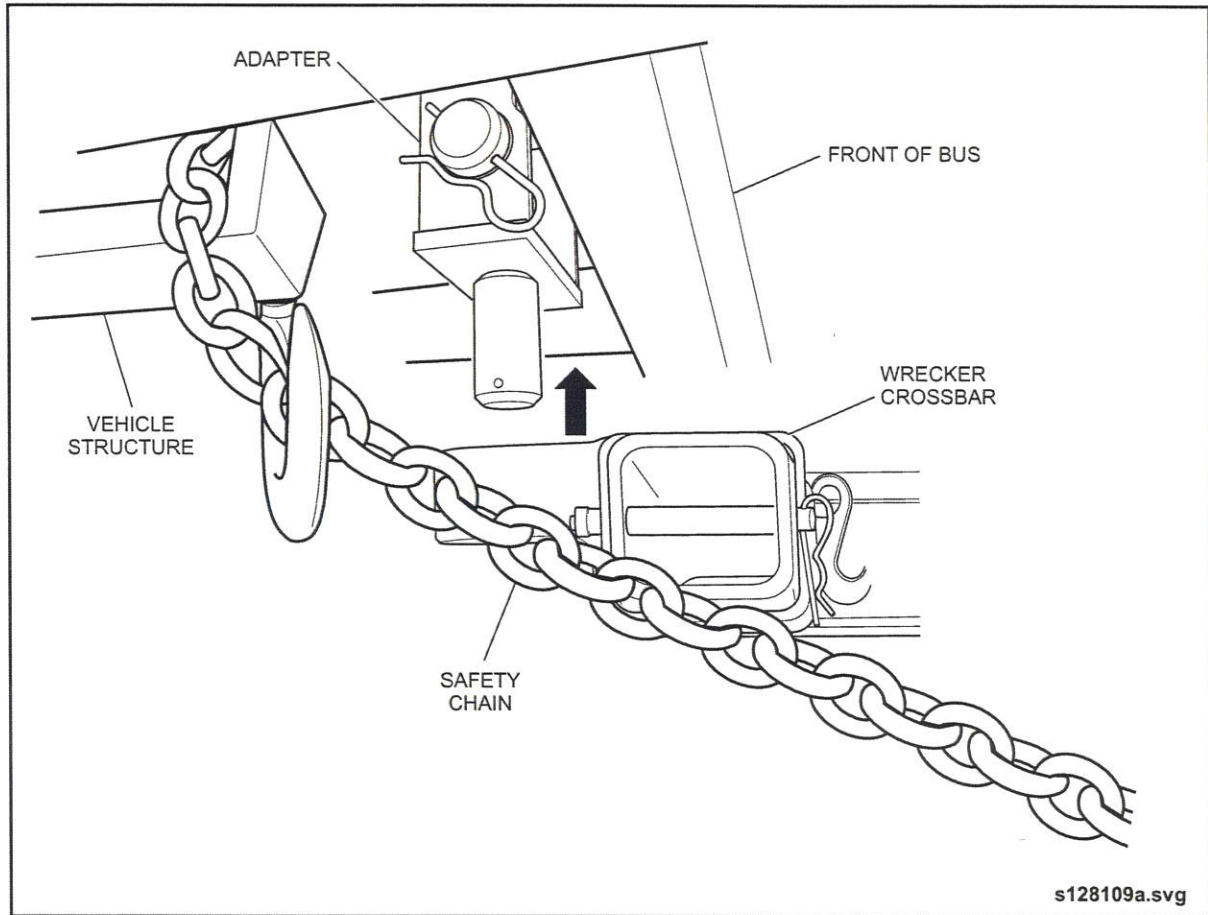

Fig. GI-22: Safety Chain
5. Attach two safety restraint chains from the towing vehicle to a fixed location on the towed vehicle. See "Fig. GI-22: Safety Chain" on page 45.